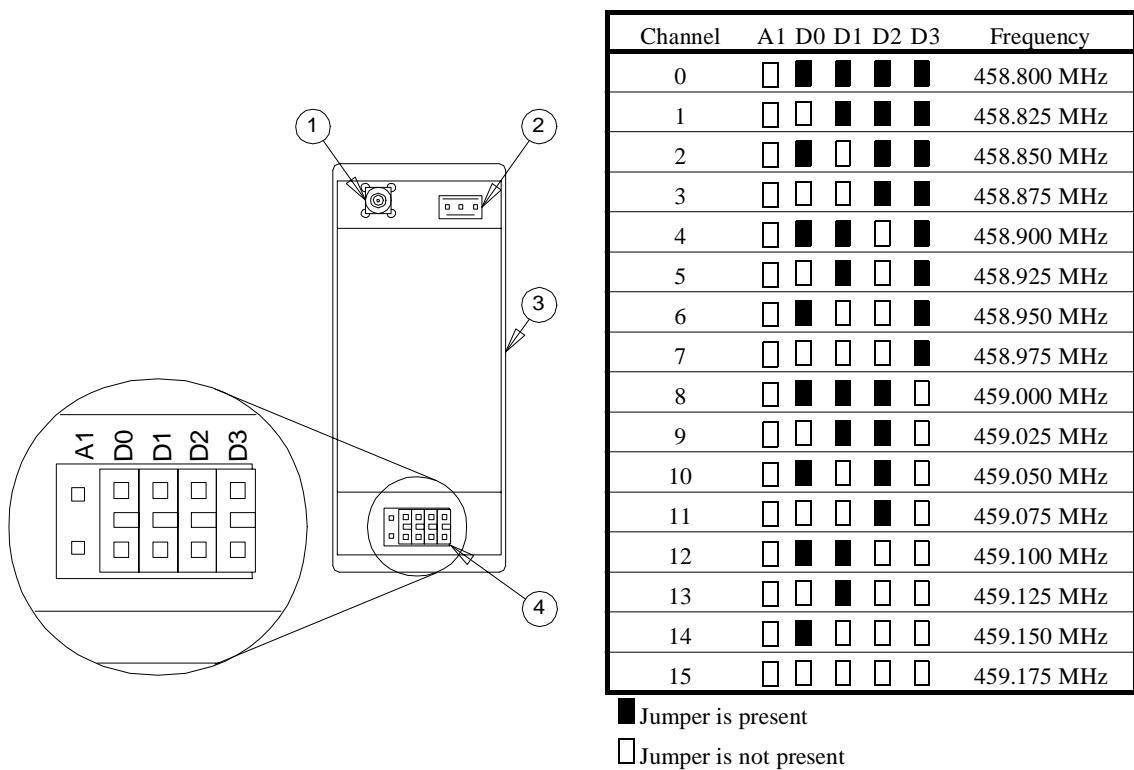

Figure 2.12: Receiver Frequency Channel Diagram
The PulseStar•609 transmitter and receiver operate over the 400—470 MHz frequency range (70-cm band). There are 16 possible frequencies and 16 corresponding channels available. Figure 2.12: Receiver Frequency Channel Diagram shows each channel, its respective frequency, and the position of the five jumpers according to the diagram for the frequency channel you are setting.
2. Reference Figure 2.12: Receiver Frequency Channel Diagram to locate the Frequency Channel Jumper Block inside the receiver.
3. Set the frequency channel jumpers according Figure 2.12: Receiver Frequency Channel Diagram for the frequency channel you are setting for the receiver. A black box indicates that a jumper should be present in that position. A white box indicates there should be no jumper present in that position.